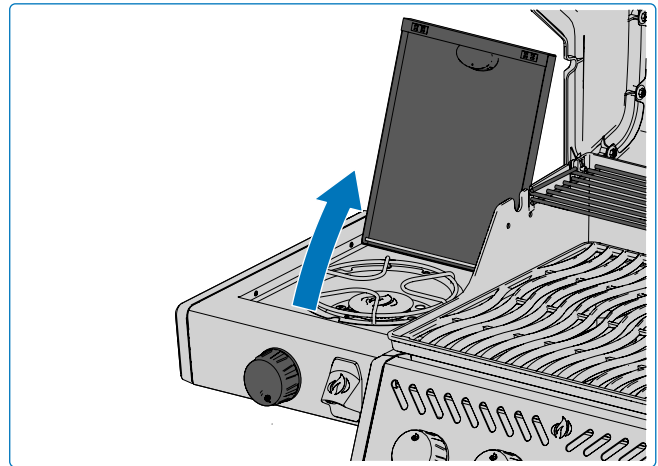

Fig. 9
1. Open burner cover (Fig. 9).